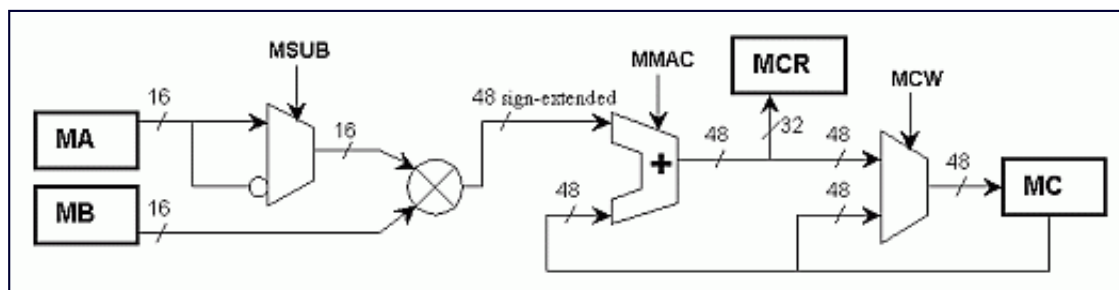

Figure 2. Multiplier operation data flow.
where n is the execution cycle, MMAC is accumulation flag (0 or 1), MSUB is negation flag (0 or 1) in the MCNT register. The MCR register keeps only 32 low bits of the right-hand side of the equation (2), but it gets updated immediately at execution cycle n. The MC register keeps a full length of the result, extended with OF bit if necessary, but both MC and OF get updated 1 cycle later. The data flow in the multiplier during operation is shown on the Figure 2.